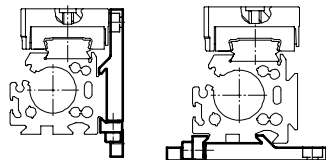

Fig. 12
2. Fasten the profile fastenings on the DGC-... in accordance with Fig. 12.